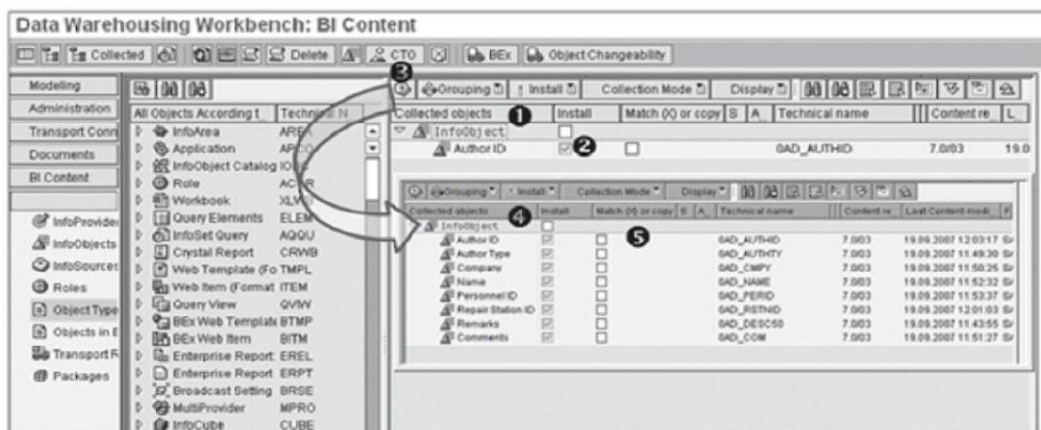

Figure 2.29 InfoObject Selected and Objects Collected
InfoObject OAD_AUTHID is now available under Collected Objects, as shown in ❶ of Figure 2.29. The Install column shows a tick for this InfoObject (❷). This tick isn't available for editing (in gray) and indicates that the InfoObject isn't active. Click on the Execute icon (⏏), as shown in ❸. The system now collects all of the necessary objects that are required to activate InfoObject OAD_AUTHID and lists them (❹).
If the list shows an object that is already active, you can re-activate it from BI Content. You can configure this by checking the Match or Copy column, as shown in ❸ of Figure 2.29. There are multiple scenarios when you may need to execute re-activation; for example, you may have modified a BI Content object and then want to revert to the original.